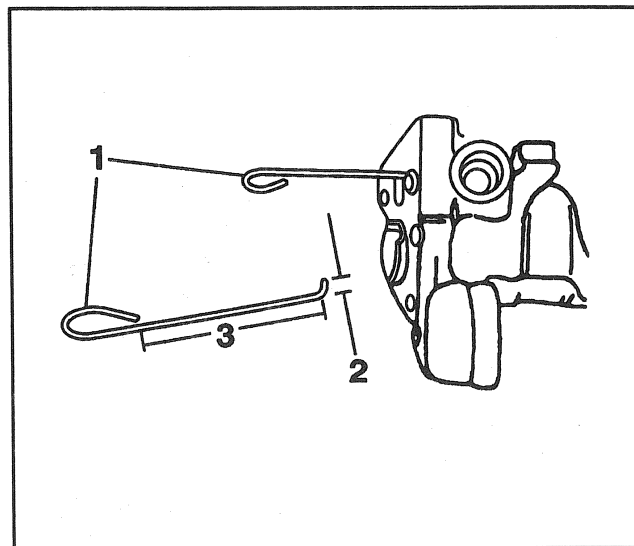

Figure 4—Removing the Check Valve
1. Gage the piston rod using J 37839 (Figure 4).